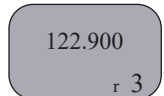

Figure 5
- To recall a used frequency, press the "◀▶" softkeys to find the desired used frequency. (See Figure 5)